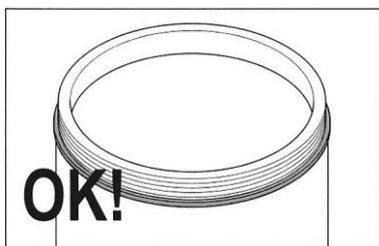

Fig. 31
1. In Fig. 31 a correctly fixed gasket is shown; it is arranged evenly along the entire edge of the tank.